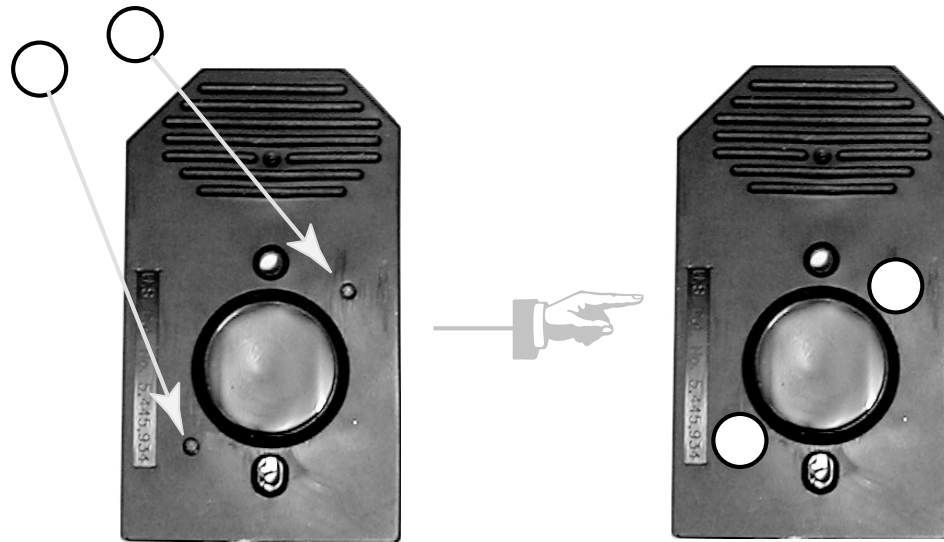

Figure 2.4.1
2. Carefully apply one Tough-Spots to each of the two septa. Press to ensure that the spots remain flat. If the Tough-Spots do not apply smoothly, that is, if you observe bumps, bubbles, tears, or curled edges, do not attempt to smooth out the spot. Remove the spot and apply a new spot. See **Figure 2.4.1**.